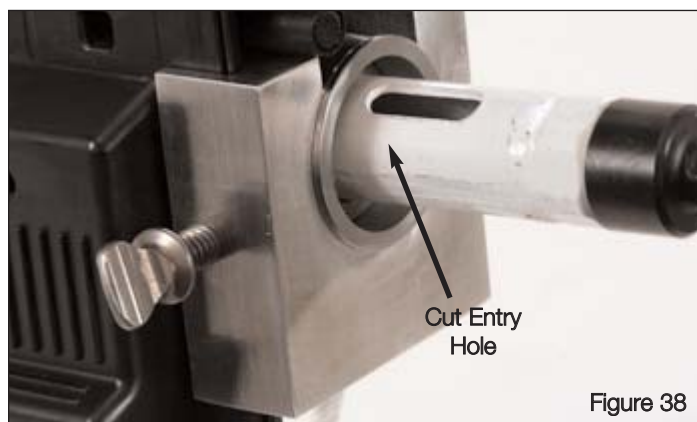

Figure 38
2. Using a drill, fit the hopper entry tool into the provided space and cut a hole, as shown in Figure 38.